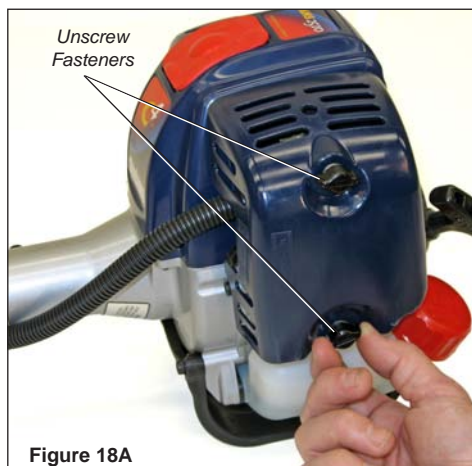

Figure 18A
1. Remove the air cleaner cover by loosening the two thumbscrews. See Figure 18A.